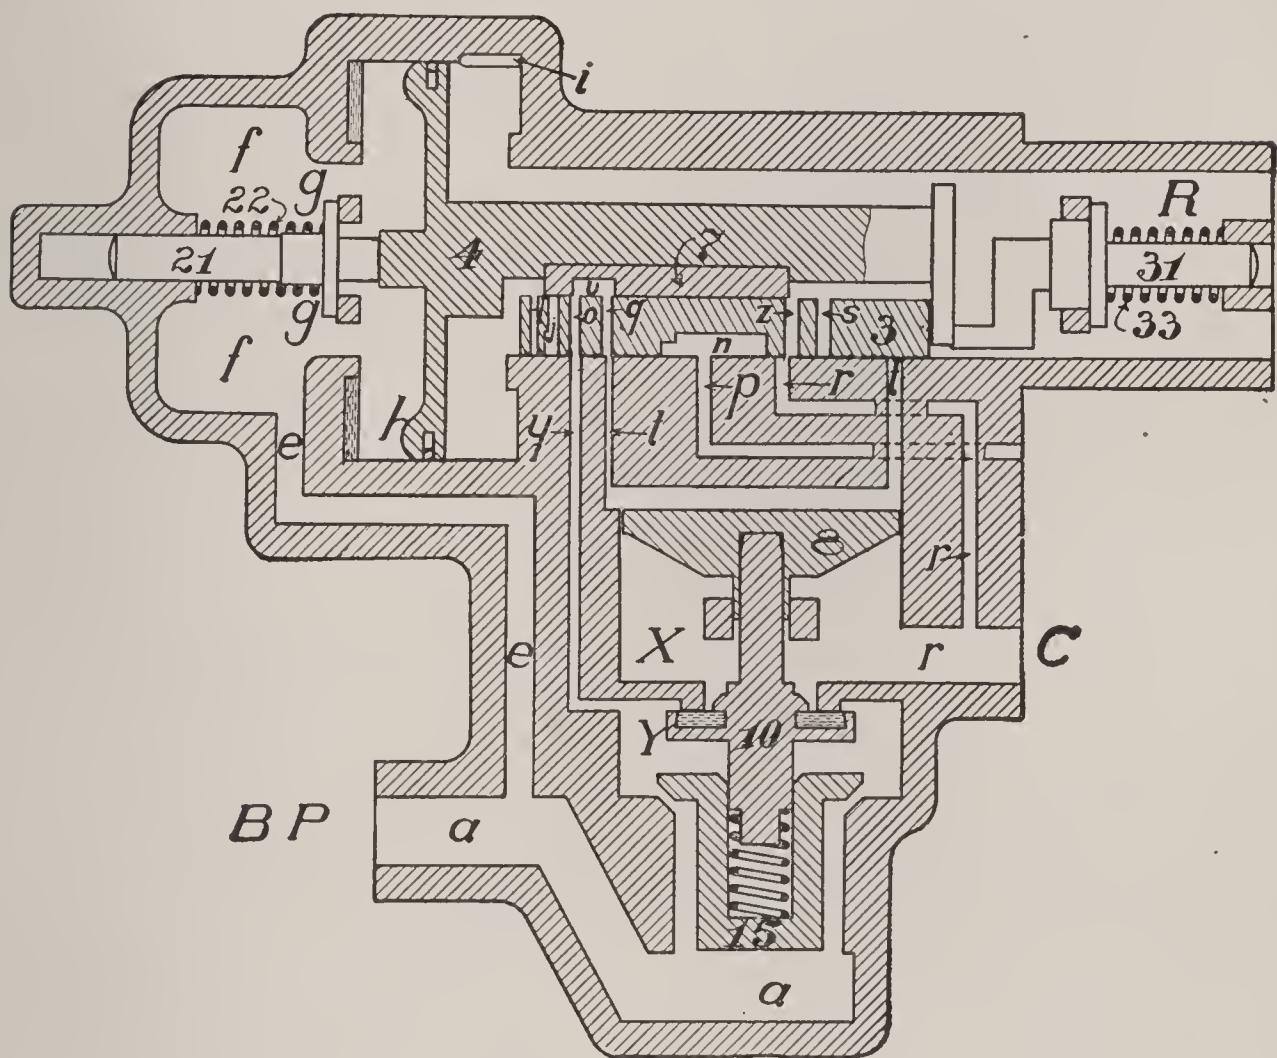
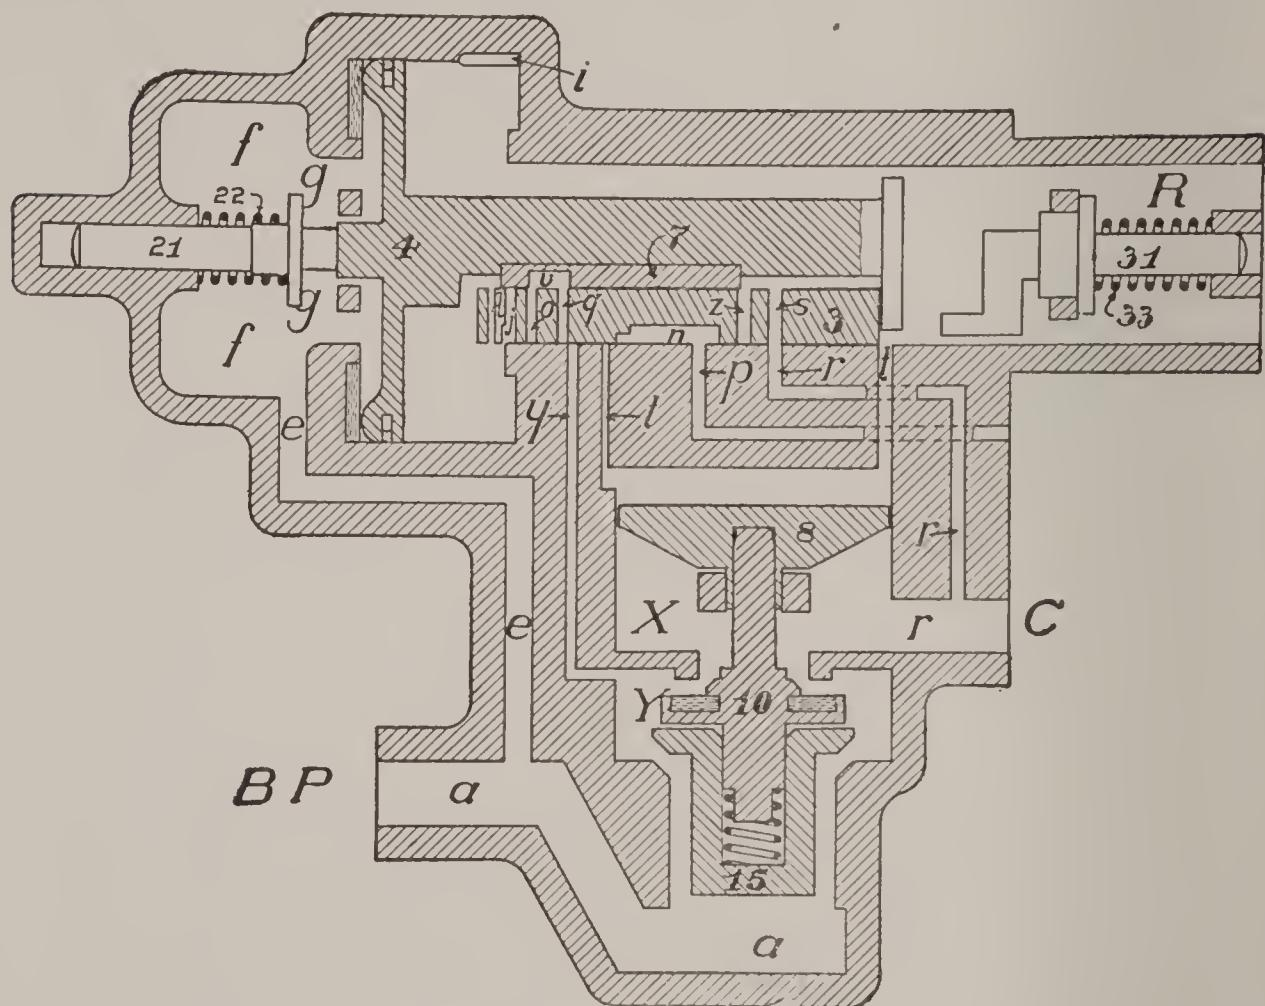

Fig. 9.
Fig. 12.
**Quick Service Application.** To make a service application of the brakes air pressure is gradually reduced in the brake pipe and thereby in chamber *h*. As soon as the remaining pressure in the auxiliary reservoir and chamber *R* becomes enough greater than that in chamber *h* to overcome the friction of the piston 4 and graduating valve 7, these two move to the left until the shoulder on the end of the piston stem strikes against the right-hand end of the slide-valve, when it also is moved to the left until the piston strikes the graduating stem 21, which is held in its place by the compression of the graduating spring 22. The parts of the valve are then in the position shown in Fig. 9. The first movement of the graduating valve closes the feed groove *i*, preventing the air from feeding back into the brake pipe from the auxiliary reservoir, and also opens the upper end of port *s* in the slide-valve, while the movement of the latter closes the
application, when only a light application was intended. But this is automatically prevented by the triple valve itself. From Fig. 9 it will be noted that in the quick service position port  $s$  in the slide-valve and port  $r$  in the seat do not fully register. Nevertheless the opening is sufficient to allow the air to flow from the auxiliary reservoir to the brake cylinder with sufficient rapidity to reduce the pressure in the auxiliary reservoir as fast as the pressure is reducing in the brake pipe, when the train is of considerable length. But if the brake pipe reduction is more rapid than that of the auxiliary, the difference in pressures on the two sides of piston 4 soon becomes sufficient to compress the graduating spring slightly and move the slide-valve to the position shown in Fig. 12. In this position quick service port  $y$  is closed, so that no air flows from the brake pipe to the brake cylinder.
**Emergency Position.** Emergency position is the same with the K triple valve as with the old type. Quick action is caused by a sudden and considerable reduction in brake pipe pressure, no matter how caused. This fall in brake pipe pressure causes the difference in pressures on the two sides of piston 4 to increase very rapidly, so that the friction of the piston, slide-valve and graduating valve is quickly and easily overcome, and they move to the left with such force that when the piston strikes the graduating stem it compresses graduating spring 22, forcing back the stem and spring until the piston seats firmly against gasket 23, as shown in Fig. 12. The movement of the slide-valve opens port *t* in the slide-valve seat and allows auxiliary reservoir pressure to flow to the top of emergency piston 8, forcing the latter downward and opening emergency valve 10. The pressure in chamber Y being instantly relieved allows brake pipe air to raise the check-valve 15 and flow rapidly through chambers Y and X to the brake cylinder, until brake cylinder and brake pipe pressures equalize, when